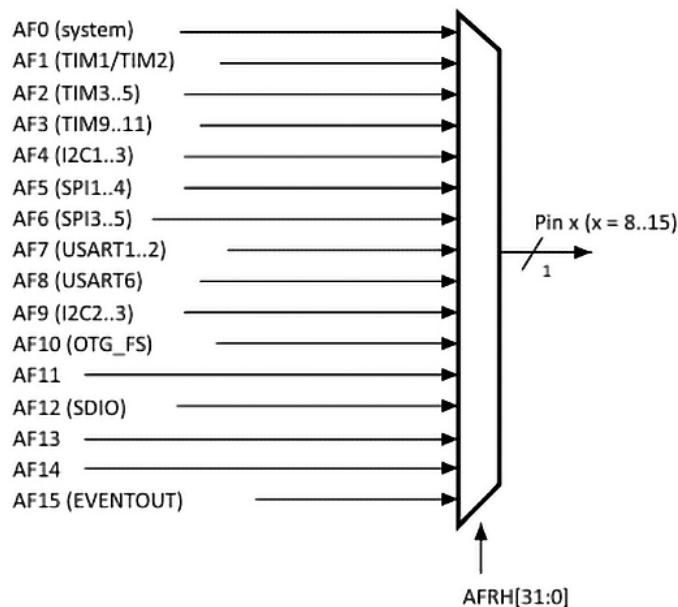

Figure 7.5: Alternate function selection
Figure 7.4 illustrates the AFRL. To understand the various alternate functions each pin can assume based on the values of the corresponding 4-bit fields, we will refer to Figure 7.5 as our guide:
*Figure 7.5* shows a diagram with two multiplexers. The first multiplexer represents the selector for the AFRL, while the second represents the selector for the AFRH. This diagram is sourced from page 150 of the reference manual. It effectively demonstrates how to configure GPIO pins for alternate functions on STM32F411 microcontrollers using these registers.